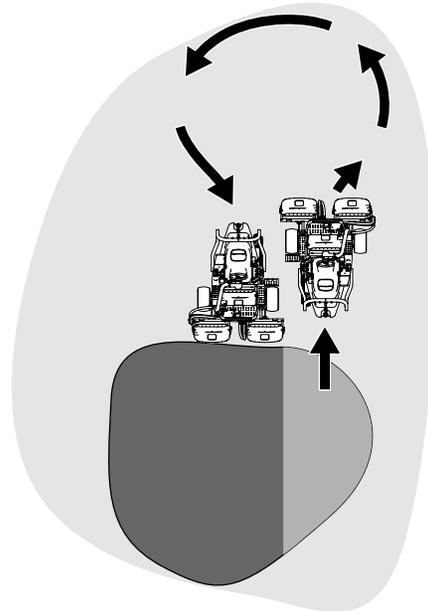

Figure 25
- To cut down on operating time and to ease the lineup for the next pass, momentarily turn the machine in the opposite direction, then turn it in the direction of the uncut portion. This movement is a tear-shaped turn (Figure 25), which quickly lines the machine up for your next pass.